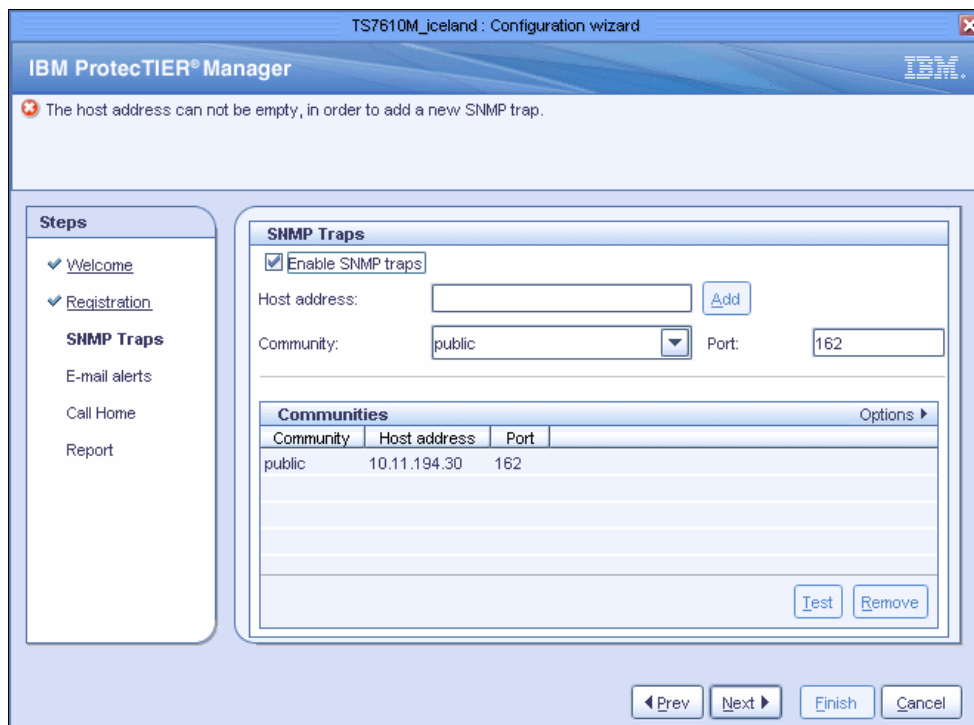

Figure 5-38 Configuration wizard: SNMP Traps window
- iv. Click **Add**. The wizard will test the SNMP connection with the server and add a line under the communities section (Figure 5-38).